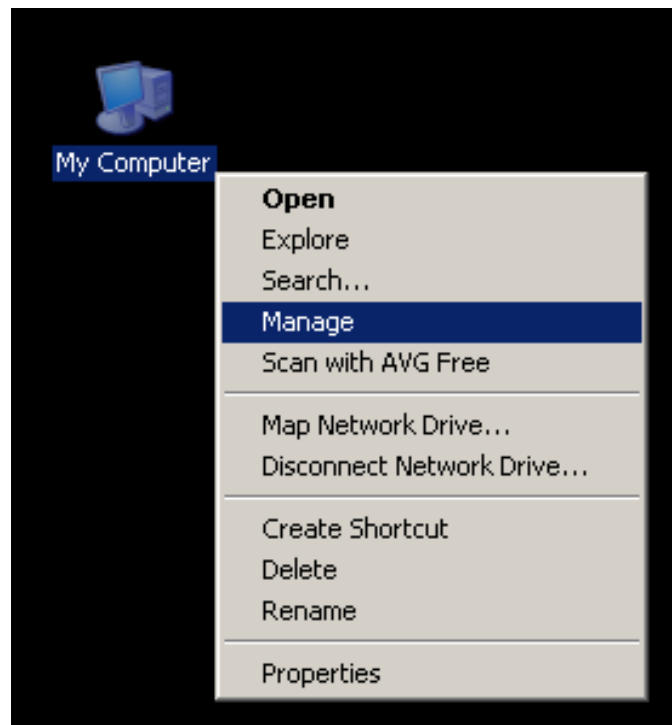

Figure 3-1: Manage My Computer
- b) Click on the *Manage* menu item as shown in Figure 3-1.